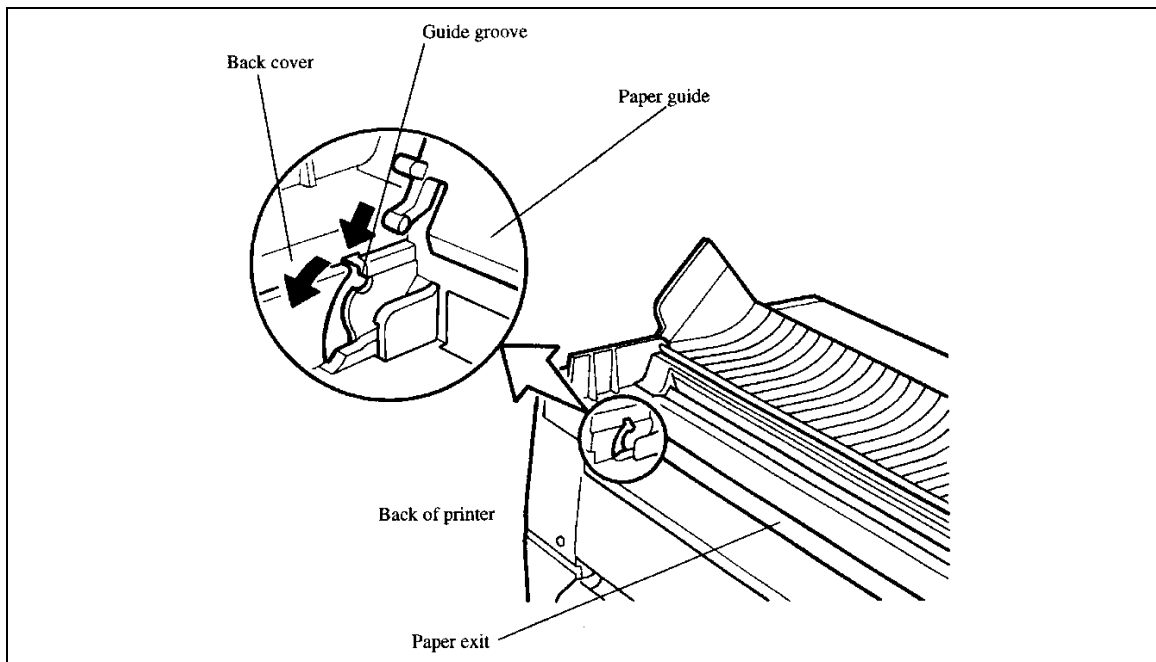

Figure 3-35. Insert the Paper Guide.
(6) Insert the paper guide, at an angle, into the left and right guide grooves of the back cover and slide it back into place (figure 3-35).